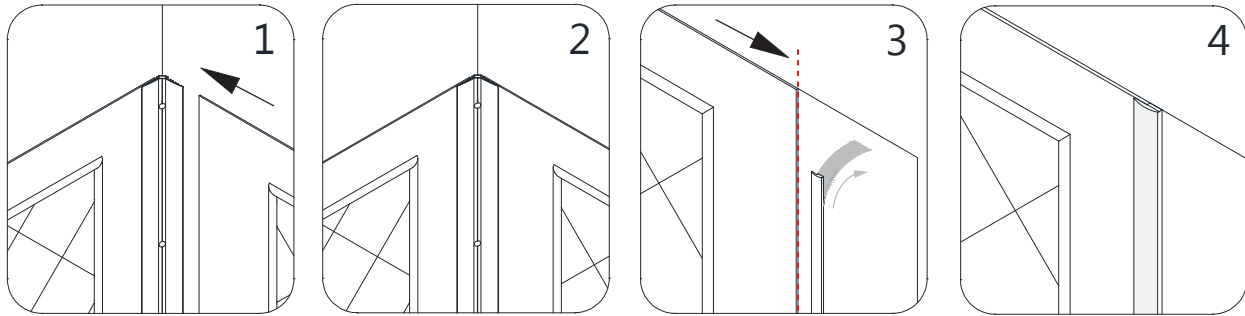

Fig 19a
19. Slide the edge of the **Side Panel (#01)** behind the **Corner Cover (#04)** and push the **Side Panel (#01)** flat against the wall up to the vertical reference line toward the outside of the tub (**Fig. 19a.3**). Align the top of the **Side Panel (#01)** with the **Back Panel (#02)** before the adhesive sets. Apply equal pressure to the whole surface of the **Side Panel (#01)** from top to bottom. (**Fig 19a**)
*Peel off the adhesive tape on the back side of the **Decorative Edge Molding (#03)** and attach it to the front edge of the **Side Panel (#01)**. Apply pressure to the **Decorative Edge Molding (#03)** from top to bottom. (**Fig 19a**)